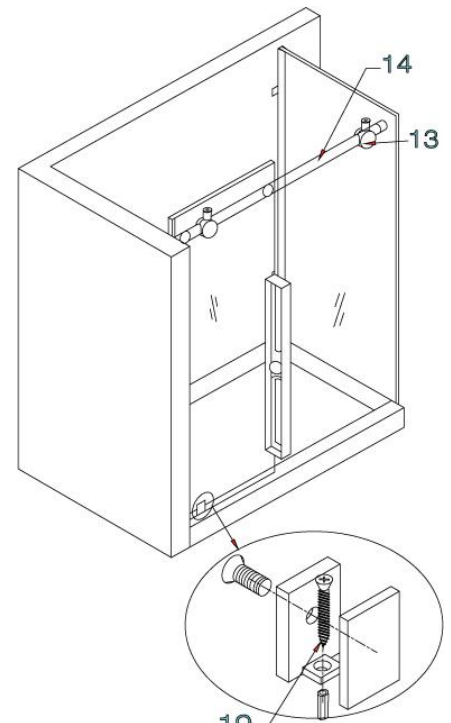

FIG. 7
4. Screw the big front fixed panel to the structural rail (#14) with the fixed panel holders (#2). [SEE FIG.6 & FIG.7]